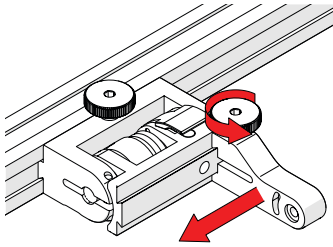

**Fig. 46** - Flip yoke and reverse arms
3. Flip the yoke 180° and reverse the probe holder arms (*Fig. 46*).